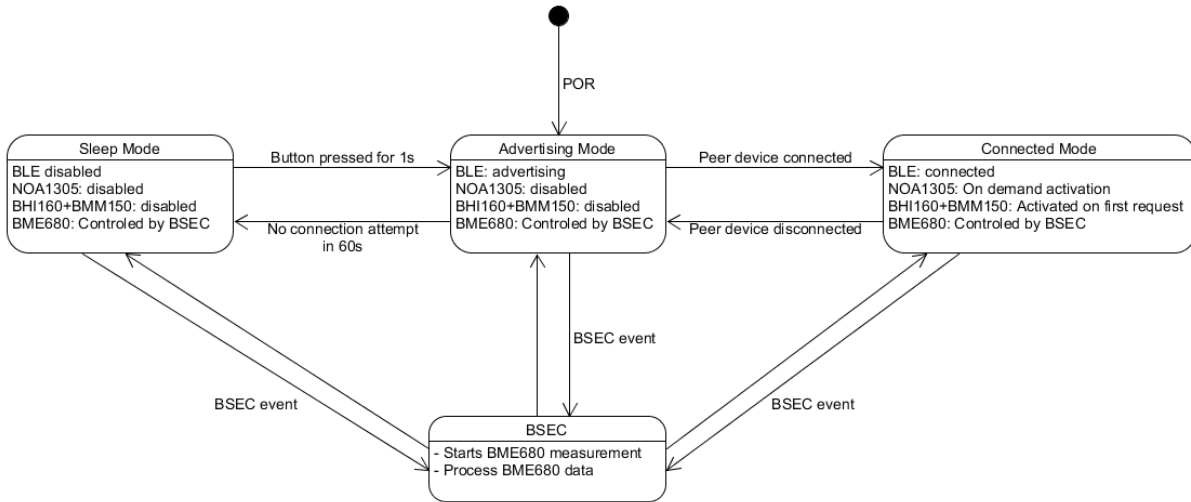

Figure 27.
20. Low power firmware – block diagram. The diagram in Figure 27 depicts detailed high level operation of ultra–low power firmware.